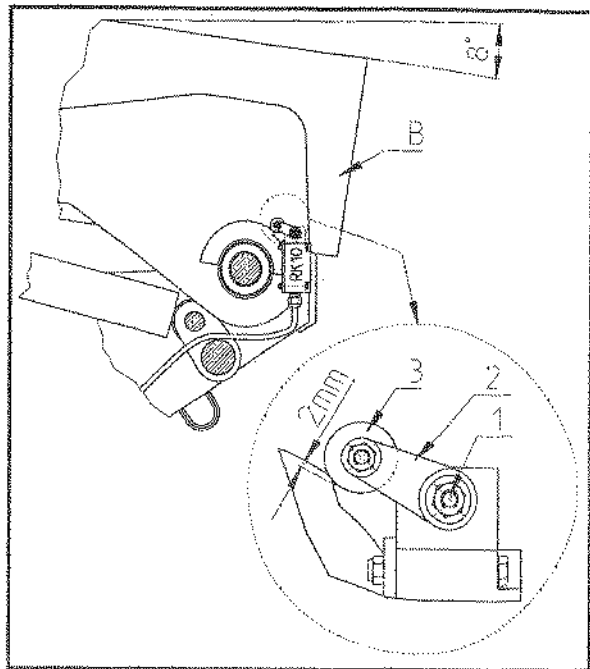

Figure 19-2
4. Limit switch RK10 should stop the movement when the bottom of the platform is about three metres from the ground. The boom angle is then 8° - 10° (figure 19-2).
3. Raise the booms 8° - 10° from the horizontal level with the override switch (figure 19-2), however, so that roller 3 of lever 2 remains in the position indicated in the partial enlargement of figure 19-2.